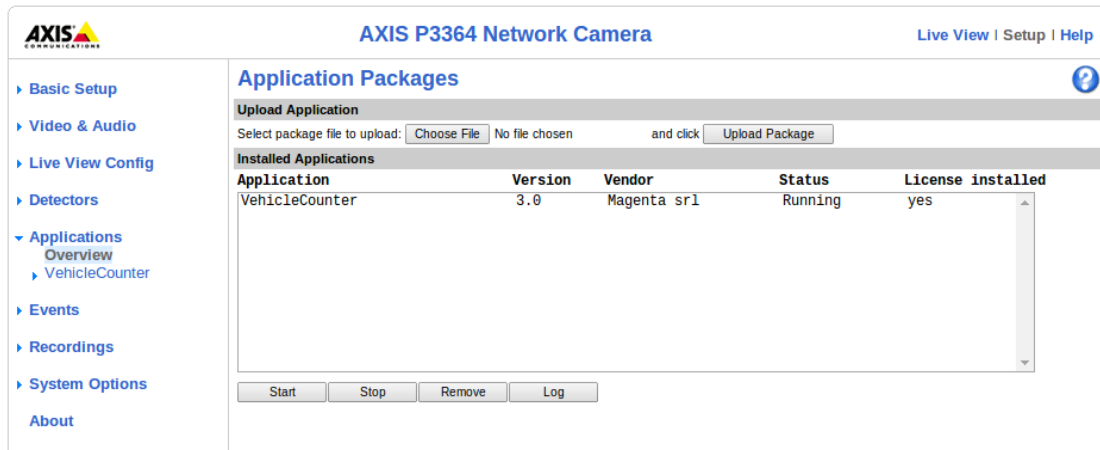

Figure 1: The 'Application Packages' page with VC3 installed, up and running.
3. once installed, the VehicleCounter application will be listed in the "Installed Application" section of the page, as depicted in Fig. 1 (VehicleCounter version may vary).
To run the application, select it from the list in the “Application Packages” page of the camera server web interface and click the “Start” button (see Figure 1). The application status should change from “Not Running” to “Running”. To stop the application simply click the “Stop” button.